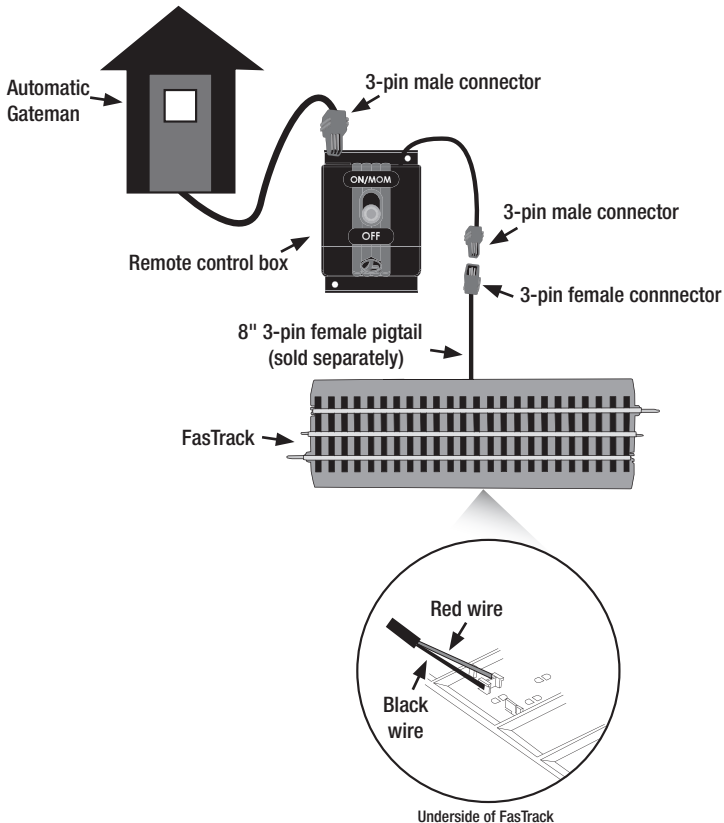

Figure 4. Connecting your gateman to FasTrack
**Y**ou also are able to connect your automatic gateman to FasTrack using the 8" 3-pin female pigtail (6-82038 - SOLD SEPARATELY). Plug in the 3-pin male connector from the accessory into the 3-pin female slot on the back of the remote control box. Next plug in the 3-pin male connector from the box into the 3-pin female pigtail. Then attach the red wire to the inside rail and the black wire to the outside rail. See figure 4.